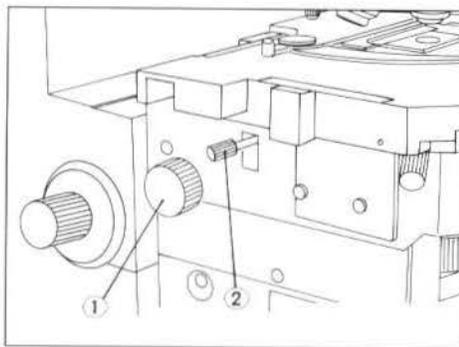

Fig. 33
② Bring the field iris diaphragm image into focus with the condenser height adjustment knob ①. (Fig. 33)
③ Adjust the condenser centering knobs ② until the centers of the reticle and field iris diaphragm coincide. (Fig. 33)